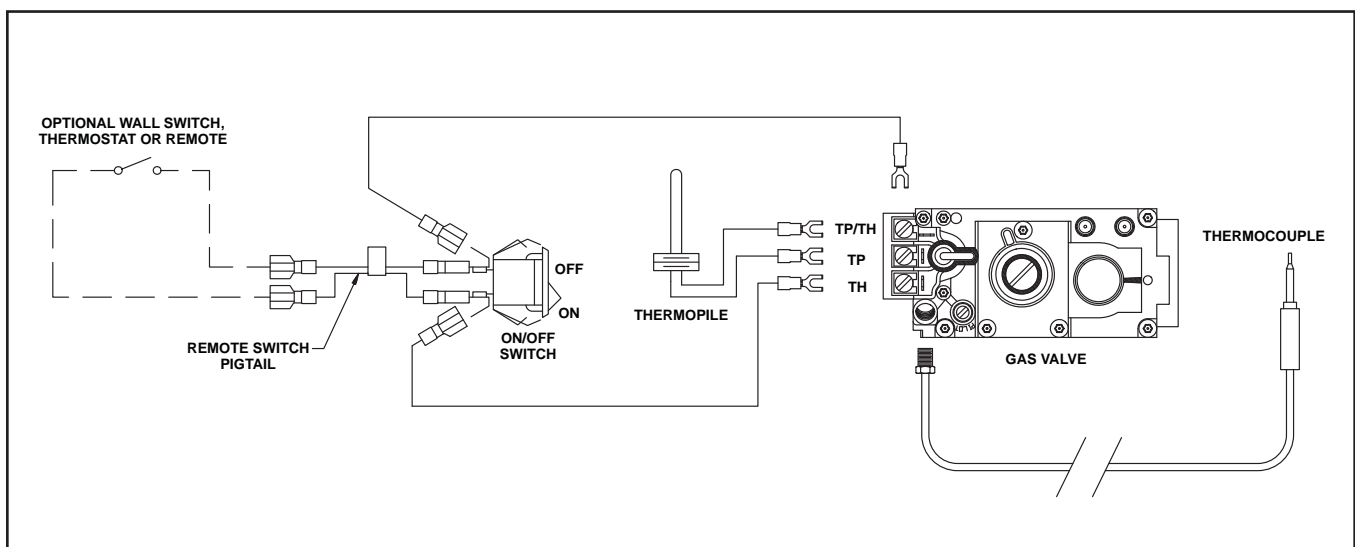

Figure 2
- D. Your appliance control system is a millivolt type. It consists of a pilot burner, a gas control valve/regulator, a thermopile, a piezo ignitor, and an ON/OFF rocker switch. For control system wiring diagram see Figure 2.